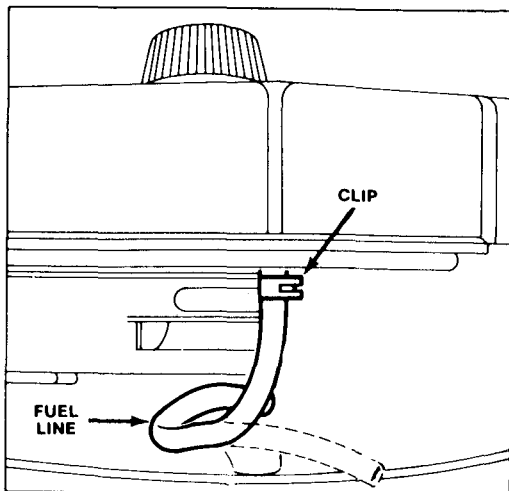

Figure 15
2. Squeeze ends of fuel line clip (Fig. 15) and slide clip down fuel line. Carefully pull fuel line off fitting and allow gasoline to flow into drain pan (Fig. 15).